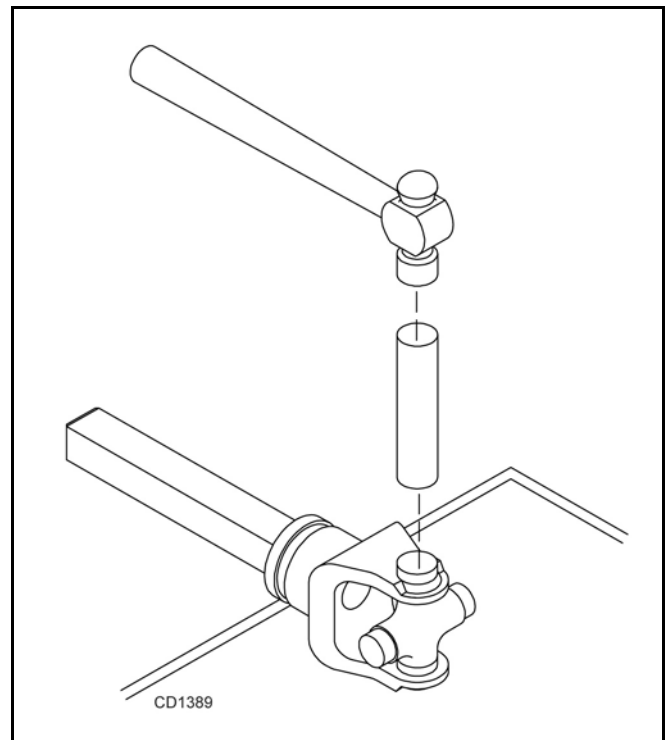

Figure 18
3. Seat cups by placing a drift or socket (slightly smaller than the cup) on cup and rap with a hammer. See Figure 18. Install snap ring and repeat on opposite cup.